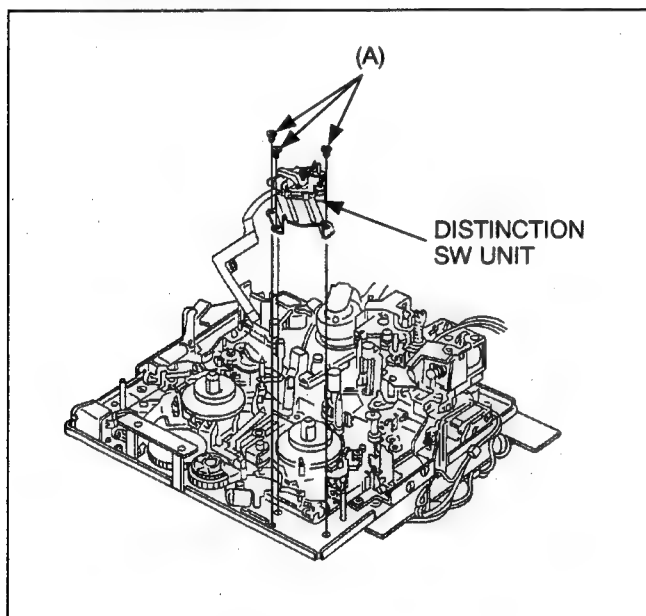

Fig. 6-12-1 Removal of Distinction Switch Unit
5. Remove the MIC Drive Rev Spring at Distinction Switch Unit side as shown in Figure 6-12-1.
6. Unscrew the 3 screws (A) and remove the MIC Rail Unit as shown in Figure 6-12-1.